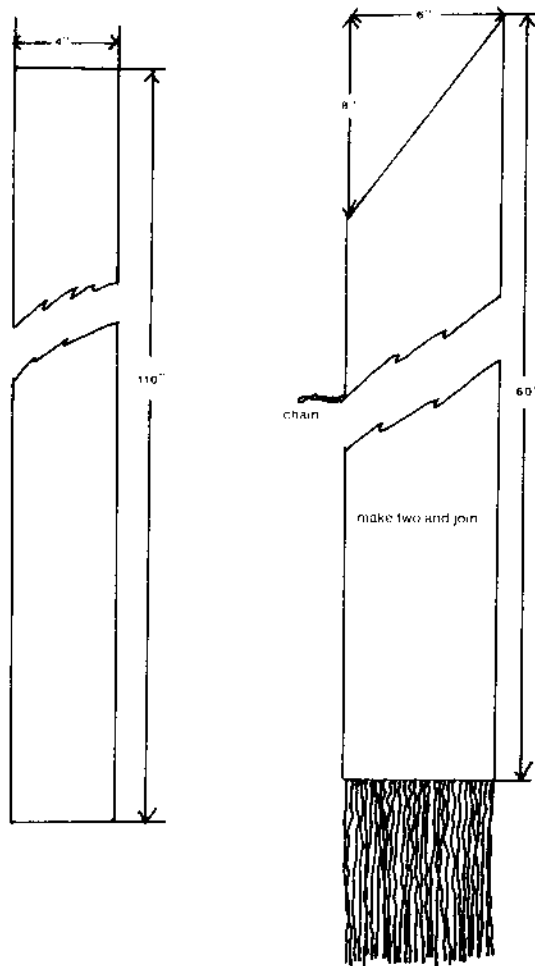

FIGURE 1
**Stole**—A stole is a long somewhat narrow piece of fabric worn around the neck and hanging down the minister's front over the chasuble or alb. It varies with the wearer's taste from 2½" (6.4 cm) wide and 106" (2.7 m) long, to 7" (17.8 cm) wide and 130" (3.3 m) long. There may be a cord or chain, 5" to 8" (13 to 20 cm) long, fastened at 8" to 11" (20 to 28 cm) from center back on each side of the length of the stole, to keep it in place across the shoulders when worn. Many stoles have a mitered point worn at center back varying from understated and near the neck, to wide and exaggerated hanging down nearly to the waistline. The angle used to make the point varies as does the width and length of the stole. (see Fig. 1)